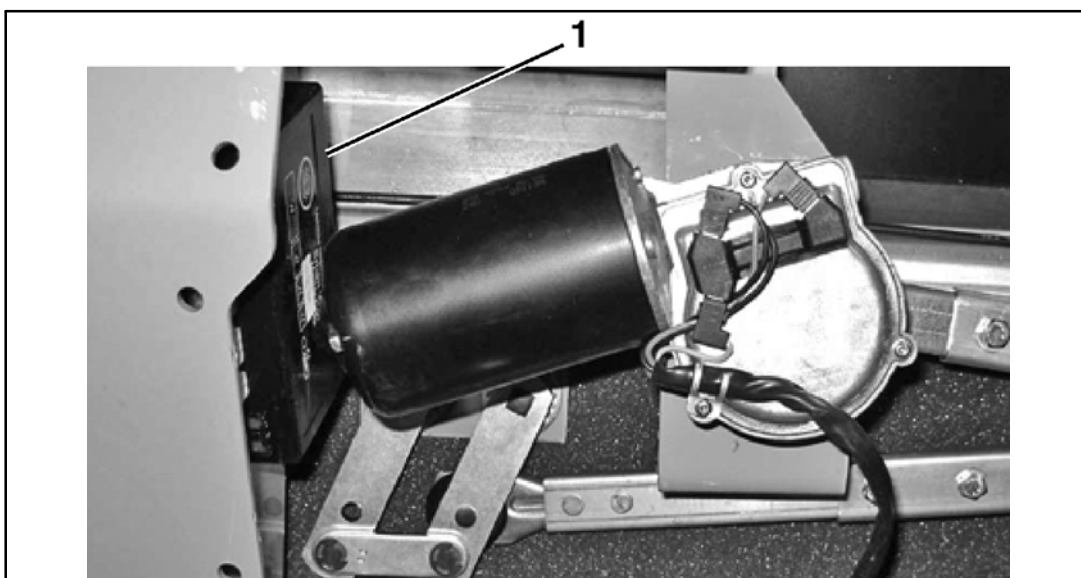
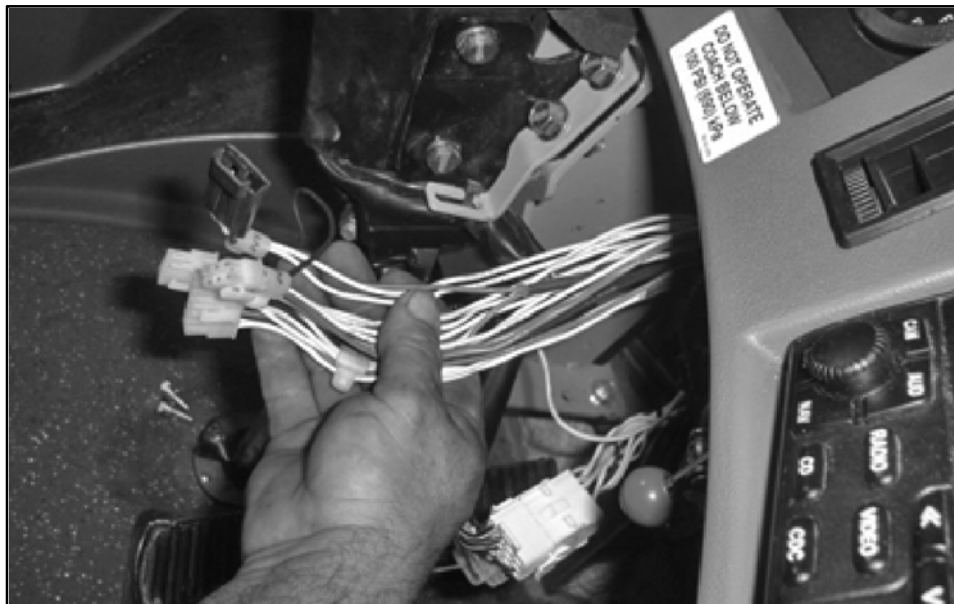

Figure 7. VIP Controller Location
Figure 8. VIP Connector
22. Locate the VIP controller, Figure 7, item #1, mounted to the RH (curbside) of the steering column bracket beside the wiper motor. Disconnect the harnesses from the VIP controller (refer to Figure 8). Remove and retain the mounting hardware from the VIP controller.
5	VIP controller (refer to Figure 7)